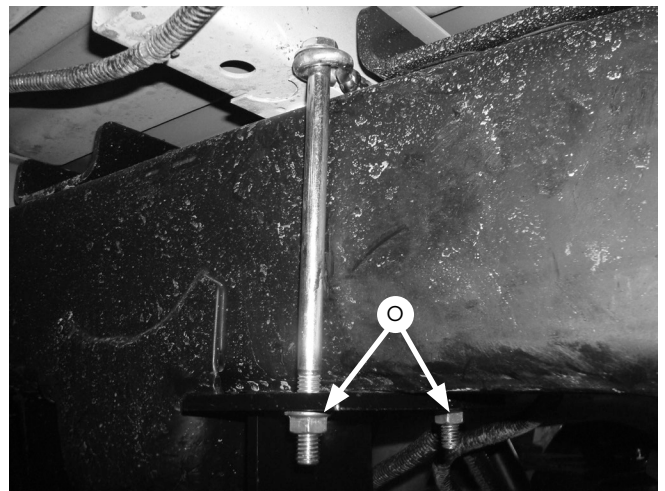
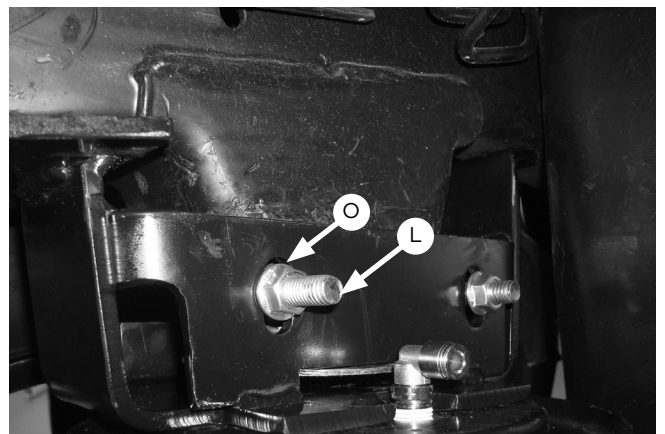

Fig. 24
Fig. 25
11. Rotate the new "U-bolt" down and through the upper bracket holes, behind the axle. Install the 3/8" serrated flange lock nuts (O) onto the U-bolt (Fig. 24). Install the passenger's side U-bolt assembly and leave both sides loose at this time.
12. Install the U-bolt (L) from the outside of the frame, over the jounce bumper mounting cup and through the upper bracket on the inside of the frame. Attach the U-bolt with the 3/8" serrated flange nuts (O) and leave loose at this time (Fig. 24 & Fig. 25).